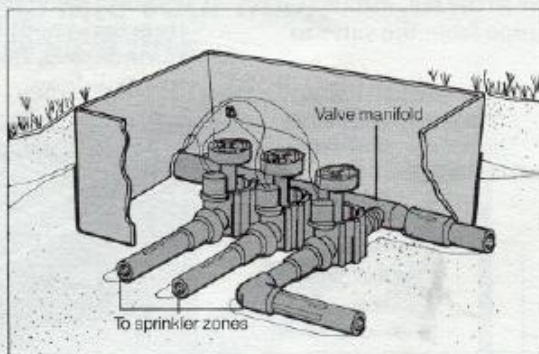

Figure 18: Valve manifolds.
2. Use valve manifold "tees" to connect the valves to the main line, as shown in Figure 18.